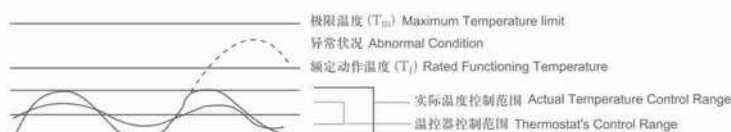

图 1 Fig.1
- 应用产品必须经过测试以确定当出现任何异常状况时都不会使温度保险丝周围温度超过极限温度（Tm），这种状况可能出现在一种称为“余热过冲”的状况下。例如：一个热风机在进风口或出风口堵塞时引起温度升高到 Tf，这时温度保险丝断开电路，但是，一个不正确的设计可能会引起装置提前开路和过度的余热过冲可能会损伤保险丝，应用产品须经测试以确定在正常的温度波动状态（如温控器的动作与复位引起的加热器温度波动）下，温度保险丝周围温度在温控器的通断循环中不会达到 Tm。（见图 1）
- The end product should be tested to ensure that potentially abnormal conditions do not exposed the thermal cutoff to the temperature exceeding its Tm. This condition may occur in an "overshoot" situation. For example, an air heater may be subjected to a blocked inlet or outlet condition on attaining its Rated functioning temperature, the thermal cutoff will open. However, an incorrect design may cause the premature opening of the device and excess overshoot may cause shooting or damage to the thermal cutoff. The end product should be tested to ensure that under normal cycling condition (such as cycling of a thermostat), the thermal cutoff never reaches its Tf during the "on" or "off" cycle. (see Fig.1)